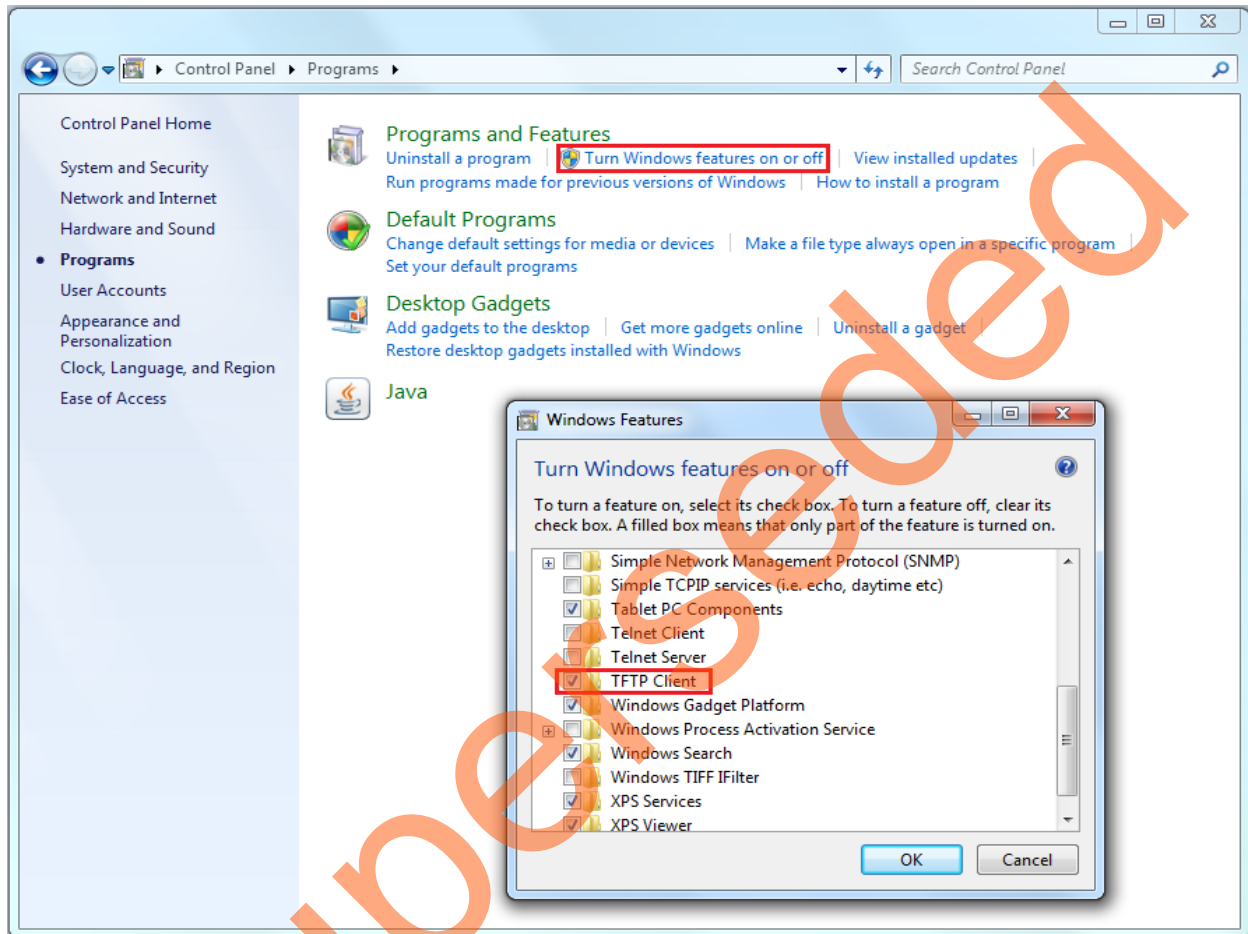

Figure 21 • Enabling TFTP Client in Host PC
1. To enable the TFTP client in the host PC, navigate to **Control Panel > Programs**. Click **Turn Windows Features On or Off** and select the TFTP client in **Windows Features** as shown in Figure 21.